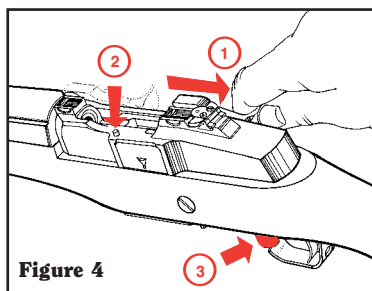

Figure 4
To manually engage the bolt lock to keep the bolt open: (See Figure 4)
2. Before inserting loaded magazine, engage the bolt lock so the bolt is held open. Check the chamber to be certain it is empty. MOVE THE SAFETY TO THE "ON" POSITION. (See Figure 4, p. 10).